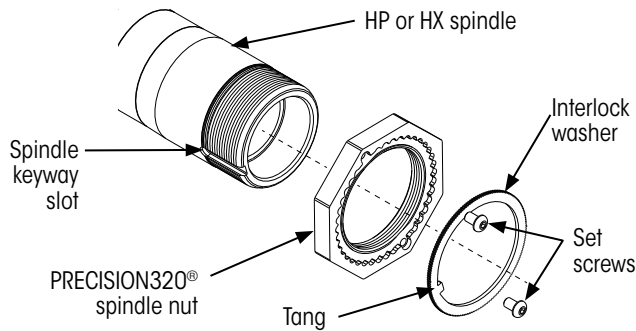
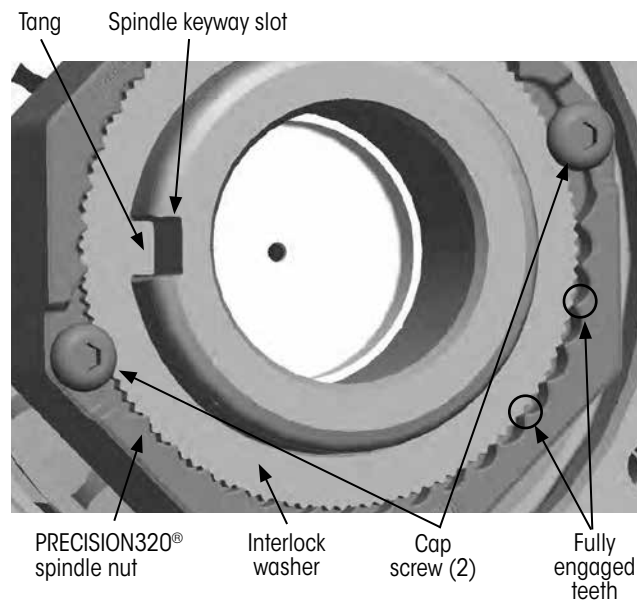

Figure 13: PRECISION320® spindle nut system components
Figure 15: Interlock washer and spindle nut fully engaged
1. Install PRECISION320® spindle nut (Figure 13) onto the spindle, toothed side out, and hand-tighten.
9. Install interlock washer into PRECISION320® spindle nut with the tang aligned and inserted in spindle keyway as shown in Figure 13 and Figure 15.
IMPORTANT: Teeth between the interlock washer and PRECISION320® spindle nut must fully engaged as shown in Figure 15 on page 13. **DO NOT ADJUST NUT TO ALIGN INTERLOCK WASHER.** Flip interlock washer over and reinstall.
10. **Install two button-head cap screws** (Figure 13 on page 13) into PRECISION320® spindle nut until the heads of the screws just contact the face of the nut.
1. **Ensure** interlock washer is fully seated in PRECISION320® spindle nut (Figure 15 on page 13).